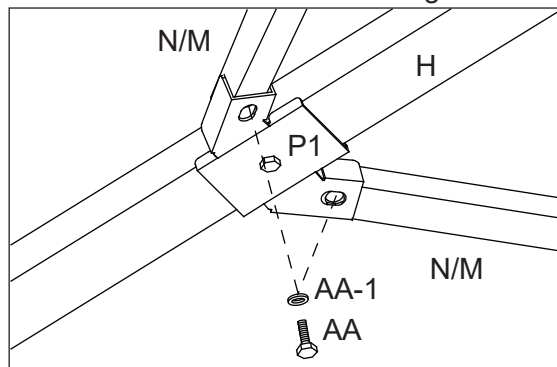

Figure 9-4
9.4: Attach the Horizontal Main Roof Supports (N, M) to the Connector (P1) using Bolts (AA) and washer (AA-1). See Figure 9-4.